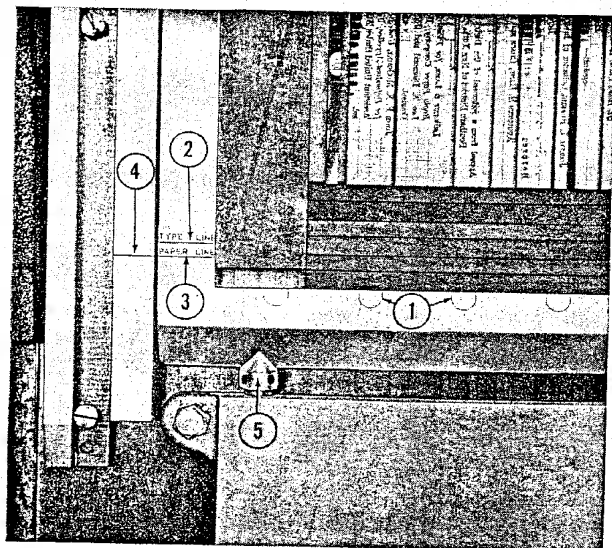

Figure 27—Chase Alignment
d. CHASE ADJUSTMENTS. (See figure 27).—Each chase furnished with the press has an inside dimension of $14\frac{7}{8}$ " x $19\frac{3}{4}$ " which will accommodate a full sized form $12\frac{1}{4}$ " x 19" (two roller coverage). A $13\frac{1}{4}$ " x 19" maximum form (one roller coverage) can be locked up by using quoins on the gripper edge. Circles (1), stamped on the gripper edge of the chase, indicate exact position of cylinder grippers. These circles are provided to aid the operator in properly positioning the form to secure the best gripper handling.
(d) Be sure the "PAPER LINE" (3) registers with alignment marking (4) on bed bearer as shown in figure 27. If necessary, raise or lower chase, as required, by turning chase adjusting screws.